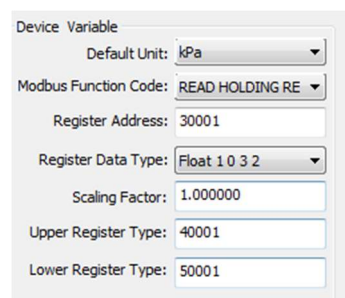

Figure 5.69 Range Lower limit register address selection
1. Select the "detailed Design"-"Sensor"-">"drop-down box corresponding to the"range lower limit register address", as shown in Figure 5.69